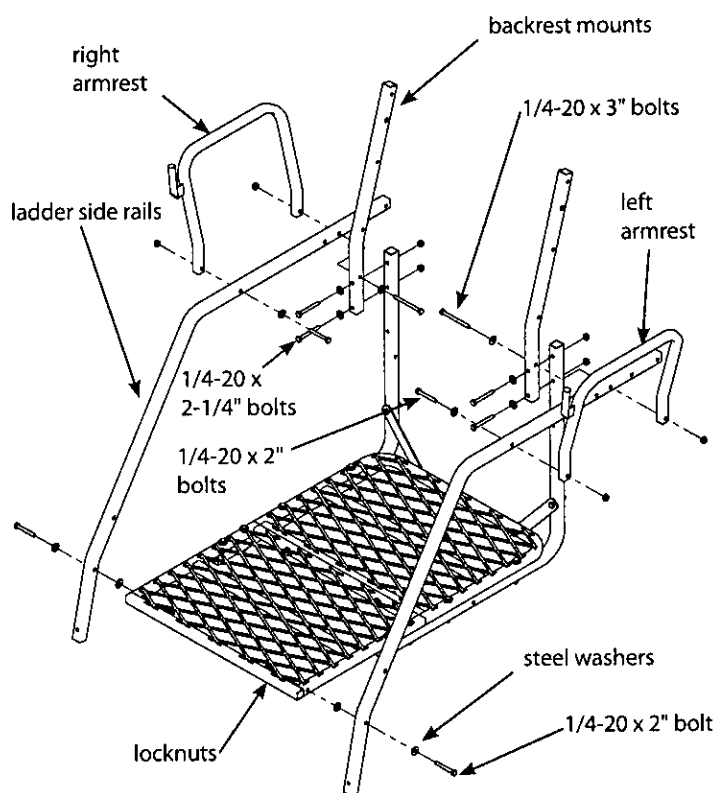

Figure 3
4. Attach the front of the ladder side rails (410053) to the front platform using (2) provided 1/4-20 x 2" bolts (2), locknuts (4) and steel washers. **SEE FIGURE 3.**
Attach the left armrest (410062L), right armrest (410062R) and (2) backrest mounts (410082) to the previously assembled ladder side rails and platform support rails using (2) provided 1/4-20 x 2" bolts, (4) 1/4-20 x 2-1/4" bolts, (2) 1/4-20 x 3" bolts, (8) locknuts and (8) steel washers. **SEE FIGURE 3.**